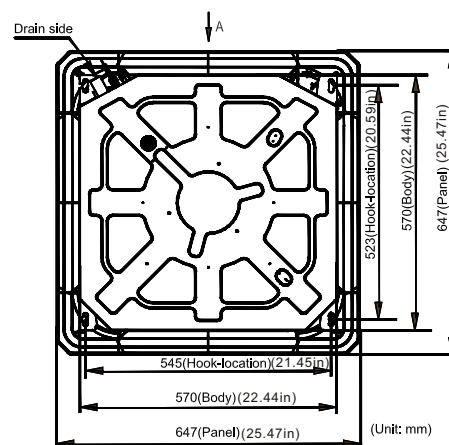

Fig. 15
- a. Please cut a quadrangular hole of 600×600mm (24×24in) in the ceiling according to the shape of the installation paper board. (Refer to Fig.15 & 16)